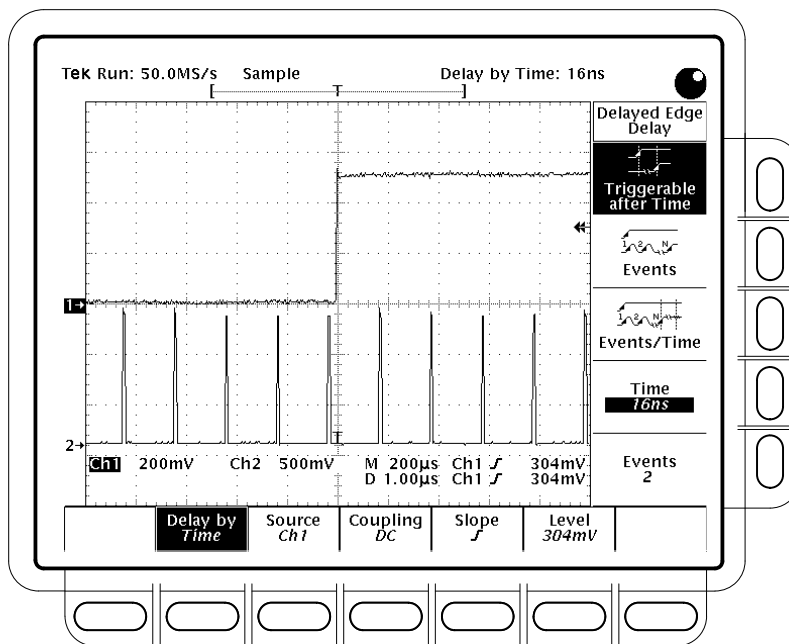

Figure 3–46: Delayed Trigger Menu
6. Press **SHIFT DELAYED TRIG** → **Delay by** (main) → **Triggerable After Time, Events, or Events/Time** (side) (See Figure 3–46.)